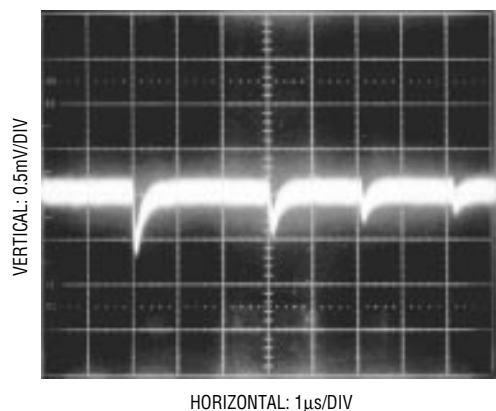

Figure 15. Adequate Reference Settling
1. Transients on the reference inputs caused by the capacitive switching currents must settle completely during each bit test (each 4 ACLK cycles). Figures 15 and 16 show examples of both adequate and poor settling. Using a slower ACLK will allow more time for the reference to settle. However, even at the maximum ACLK rate of 2MHz most references and op amps can be made to settle within the  $2\mu s$  bit time. For example an LT1019 used in the shunt mode with a  $10\mu F$  bypass capacitor will settle adequately. To minimize power an LT1004-2.5 can be used with a  $10\mu F$  bypass capacitor. For lower value references the LT1004-1.2 with a  $1\mu F$  bypass capacitor can be used.